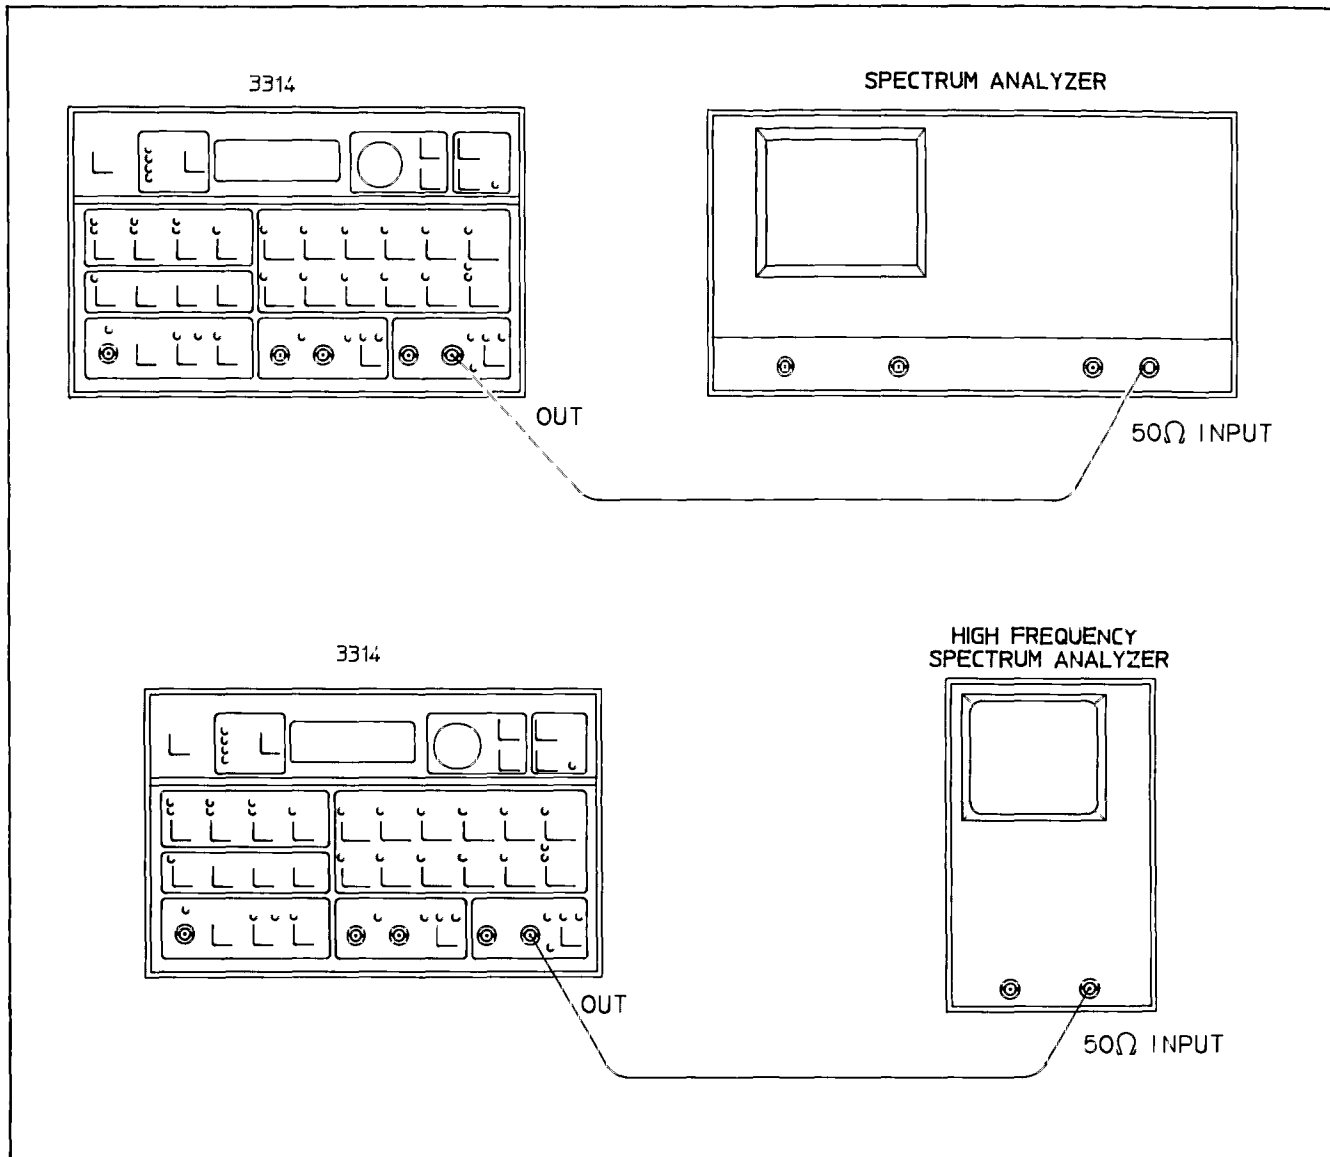

Figure 4-9. Sine Wave Harmonics
C. Connect the 3314A to the Spectrum Analyzer as shown in Figure 4-9
K. To measure the harmonics of the frequencies listed in Table 4-7, connect the 3314A to the High Frequency Spectrum Analyzer as shown in Figure 4-9.